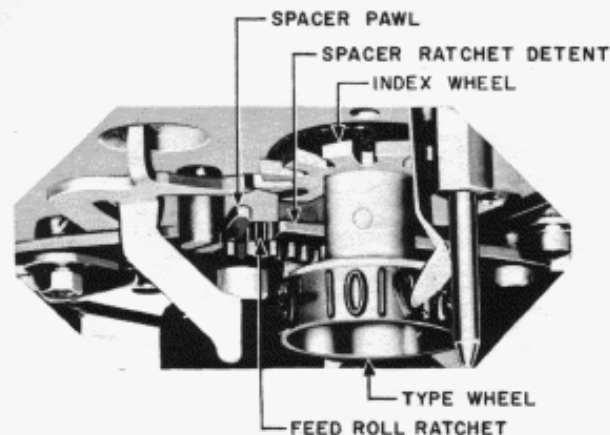

Fig. 13 — Spacer Pawl, Spacer Ratchet Detent and Feed Roll Ratchet
(1) Remove the tape chute mounting screws using the 3-inch C screwdriver and remove the tape chute. Remove the feed roll mounting screw using the KS-6854 screwdriver. Disengage the end of the pressure bail spring from the post and swing the pressure roll away from the feed roll. Remove the feed roll assembly. Using the 7/16-inch thin wall socket wrench, remove the nut and associated lockwasher provided in the hub and remove the hub. Remove the feed roll from the shaft. Substitute the new feed roll and remount it on the feed roll shaft. Remount the hub, lockwasher, and nut and tighten the nut securely. Remount the feed roll assembly on the post so that the feed roll ratchet engages the spacer pawl and the spacer ratchet detent as shown in Fig. 13. Secure the roll in place with the mounting screw. Make sure when doing this that the two shims that were removed are between the hub and the washer.
(2) Position the pressure roll next to the feed roll and hook the pressure roll bail spring in the groove of the post. Remount the tape chute securely with the mounting screws.
3.11 Type Wheel: To replace the type wheel, remove the ink roll fork and roll from the post. Remove the type wheel mounting screws and remove the type wheel. Substitute the new part. Remount the new type wheel on the shaft so that the No. 1 character on the type wheel is in alignment with the reference mark on the index wheel. See Fig. 13. Insert and tighten securely the mounting screws. Remount the ink roll fork and ink roll.